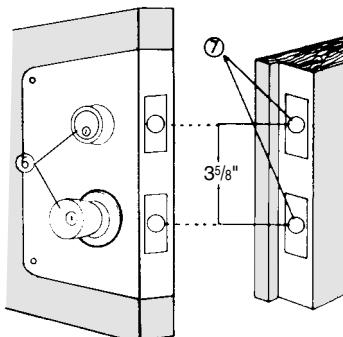

Figure 13.140 Install the locksets and strike plates. (M.A.G. Engineering and Mfg., Inc.)
5. Install both locksets (6) (before installing the mounting screws). Install both striker plates (7) 3 $\frac{5}{8}$ inches between centers. The strike plate installation should be per the specific instructions for the installed lockset (Fig. 13.140).